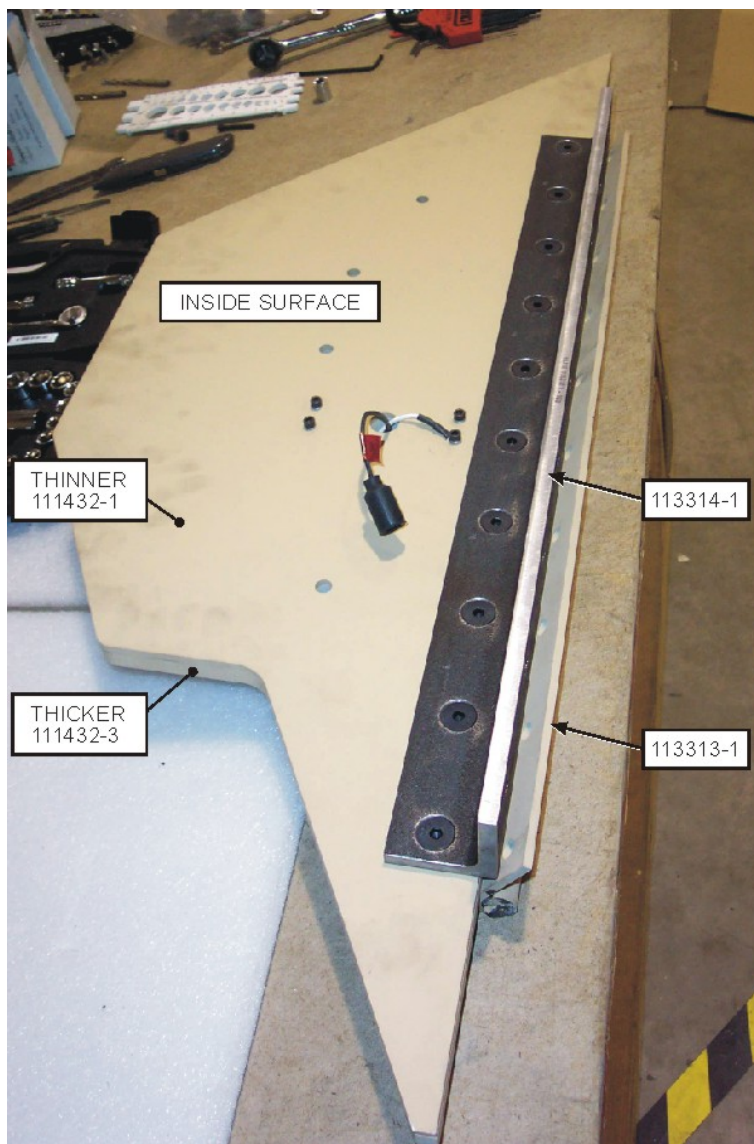

Figure 23. Installing the Door Hinge and Hinge Bracket on the Front Cab Armor Panel.
5.1.2 Install Side Armor Protection Kit (RH), P/N 106703-10
- a. Install the Door Hinge (P/N 113313-1) and the Hinge Bracket (P/N 113314-1) onto the Front Cab Armor Panel (P/Ns 111432-1 and 111432-3 – the armor panel consists of two overlapping plates, with the thicker plate on the outside) using ten bolts (3/8 – 16 x 2.000 LG), ten washers (3/8 ID), and ten nuts (3/8 – 16) (See Figure 23).